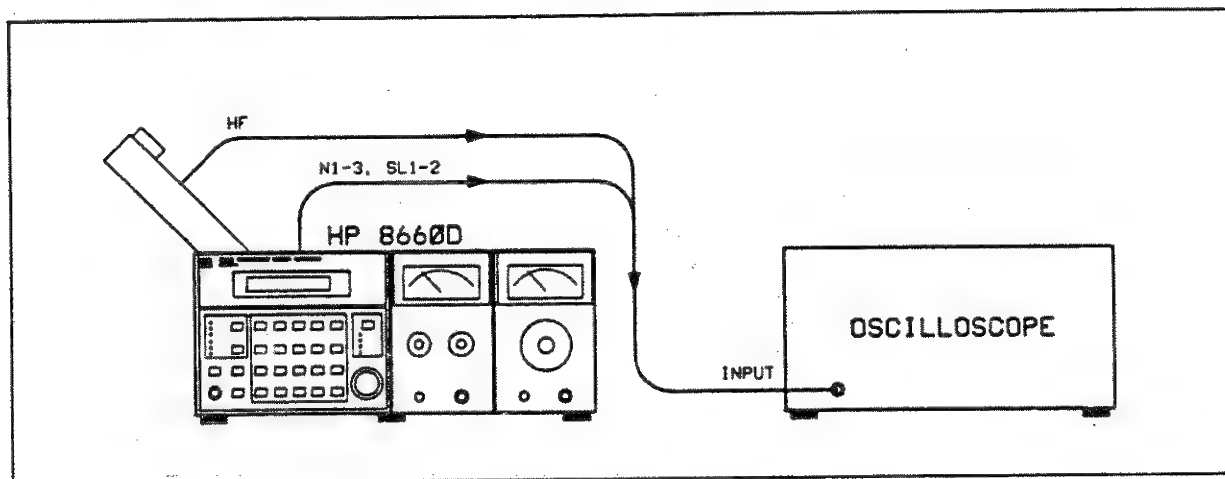

Figure 5-1. Abbreviated Phase Locked Loops Test Setup
1. Set up the test equipment as shown in Figure 5-1.
All of the test points except for the HF loop are located on the A2 Motherboard. Access to these test points is obtained by raising the A4 assembly and locking it in the up position (see Figure 5-1). Figure 5-23 shows the approximate location of all test points. The reference designators of the test points are etched on the pc board. Access to TP3 and TP8 is difficult because they are under the A3A1 and A3A2 assemblies. TP3 can be reached by using a piece of solid wire to probe down into the test point. TP8 is connected to XA12-1 pin 4, which is accessible.